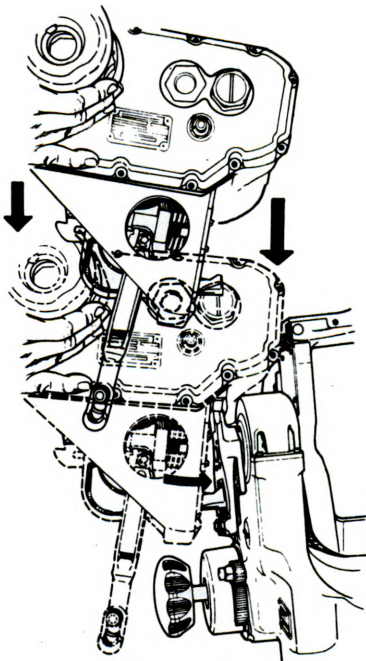

Figure 6. Alinement of the daysight tracker on the boresight plate.
b. With the locking latch assembly all the way down, aline the top of the tracker mounting bracket over the top of the boresight plate on the traversing unit and lower the tracker into position against the boresight plate (fig. 6).